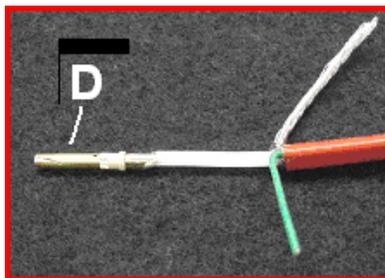

Figure 1: HV Coax Cable Preparation
6. Solder the inner conductor of the high voltage coax to part d. See Figure 1.